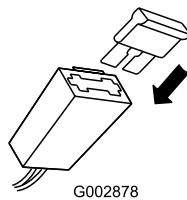

Figure 8
2. Insert the fuse (from the loose parts bag) into the fuse holder (Figure 8).